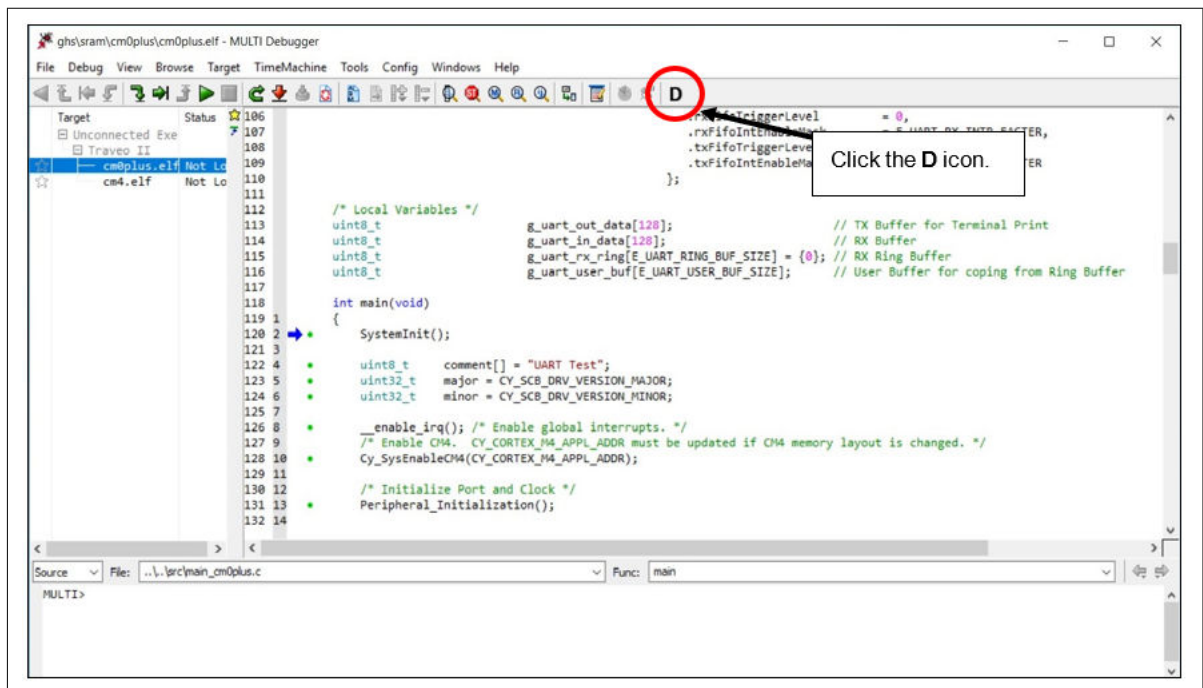

Figure 12 Debug the project of SDL project
- To enable the SDL project to detect the debugger script, click the **D** icon as shown in Figure 12.